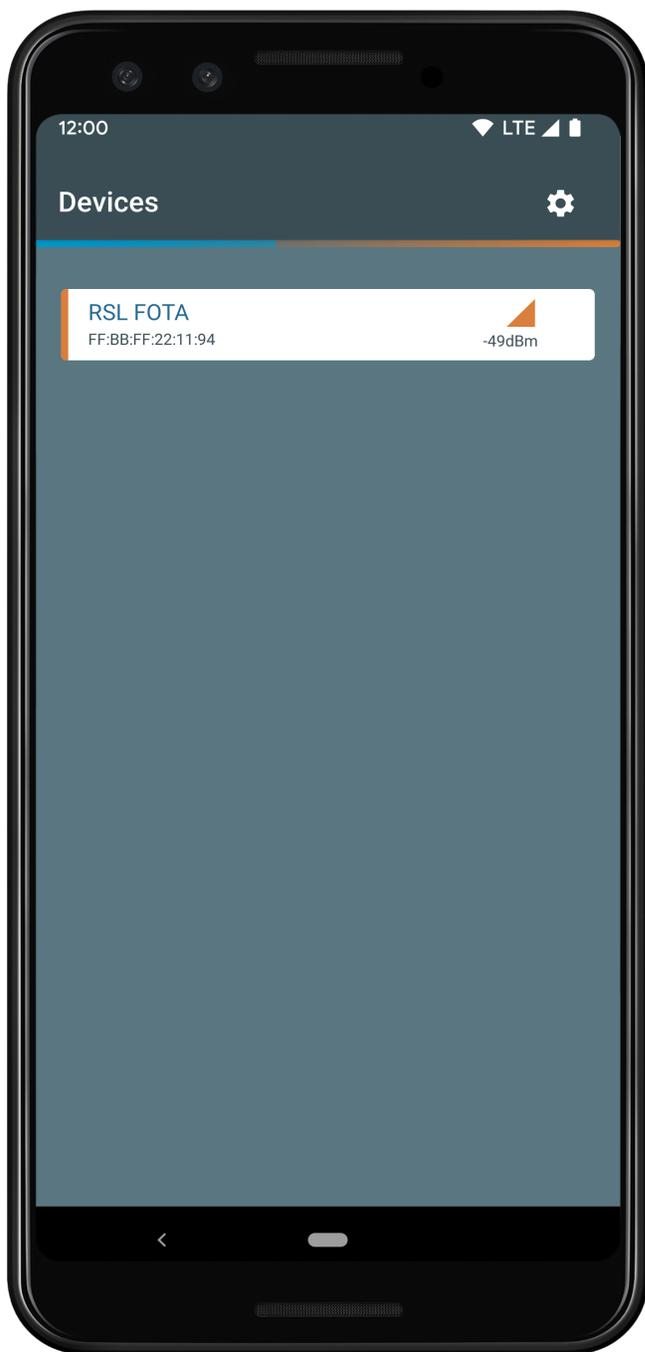

Figure 24. RSL FOTA Mobile Application Showing Bluetooth Low Energy Devices
2. Launch the application and select the FOTA enabled firmware device from the list of devices, as shown below in the "RSL FOTA Mobile Application Showing Bluetooth Low Energy Devices" figure (Figure 24).